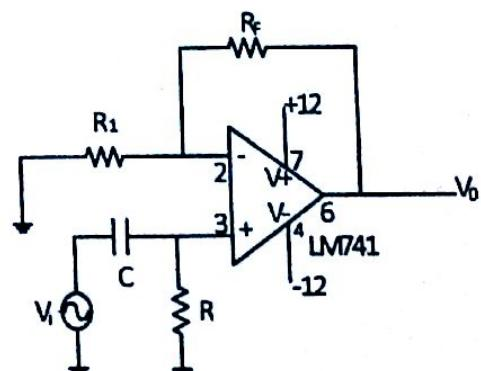

Fig. 7.4 Non-inverting high pass filter
- 1) Assemble the circuit shown in Fig. 7.4 with  $R_1 = 10 \text{ k}\Omega$ ,  $R_2 = 100 \text{ k}\Omega$ ,  $R = 1 \text{ k}\Omega$  and  $C = 0.1 \mu\text{F}$ . Make sure the power supply ground is connected to the circuit ground.